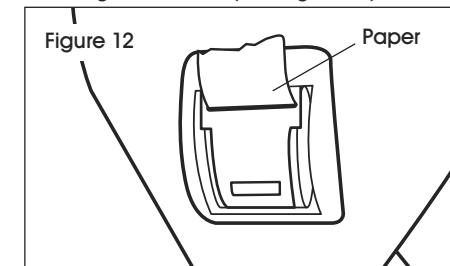

Figure 12
2. Insert paper roll. Feed the paper roll end through the cover. (See Figure 12)